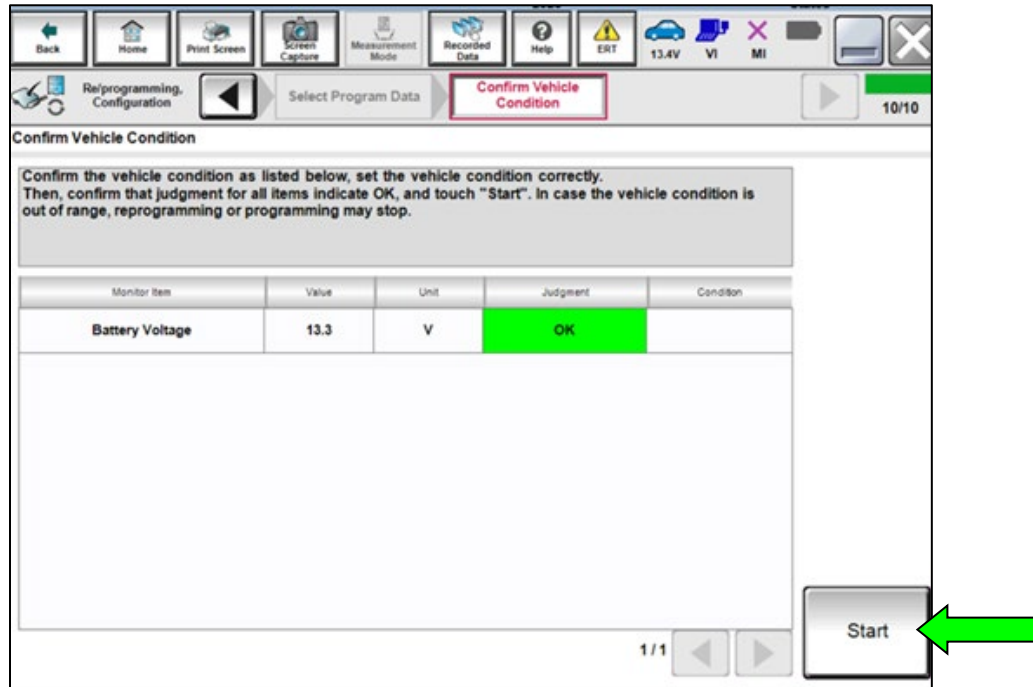

Figure 24
- If any of the items shown in Figure 24 display a status of “NG”, verify the battery maintainer/smart charger is turned ON and is securely connected to the 12V battery